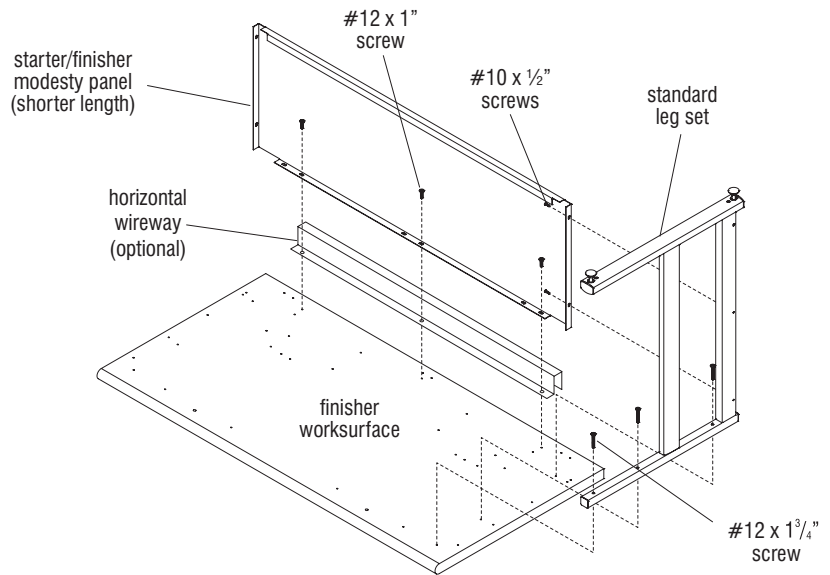

Figure 3 - Finisher Worksurface
8. To avoid scratching top, carefully lay finisher worksurface upside down on a soft, protective surface. Install a standard leg set to the underside of the worksurface at pre-drilled holes using three #12 x 13/4" screws. The standard leg set is "not shared" so should not be installed to the mounting holes closest to the edge of the worksurface (Figure 3).
9. Position a starter/finisher modesty panel over the mounting holes in the worksurface, and next to the standard leg as illustrated. If optional horizontal wireway is to be installed to unit, place the wireway between mounting flange of modesty panel and the worksurface, aligning the mounting holes as illustrated. Secure modesty panel to worksurface with three #12 x 1" screws, and attach one modesty panel end to the standard leg using two #10 x 1/2" screws (Figure 3).